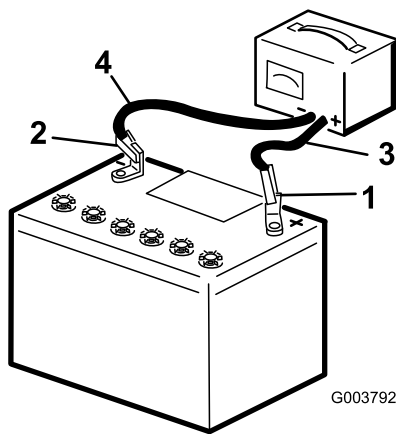

Figure 39
2. Charge the battery for 10 to 15 minutes at 25 to 30 A or 30 minutes at 4 to 6 A (Figure 39). Do not overcharge the battery.
- When the battery is fully charged, unplug the charger from the electrical outlet, then disconnect the charger leads from the battery posts (Figure 39).